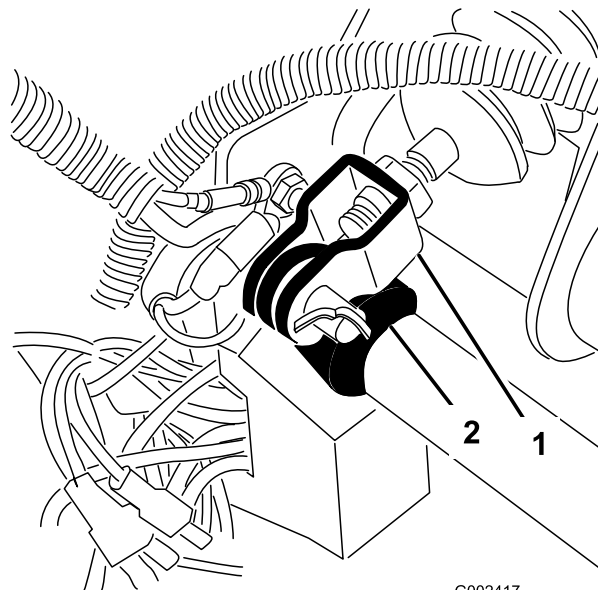

Figure 58
1. Remove the cotter pin and clevis pin securing the master cylinder yoke to the brake-pedal pivot (Figure 58).